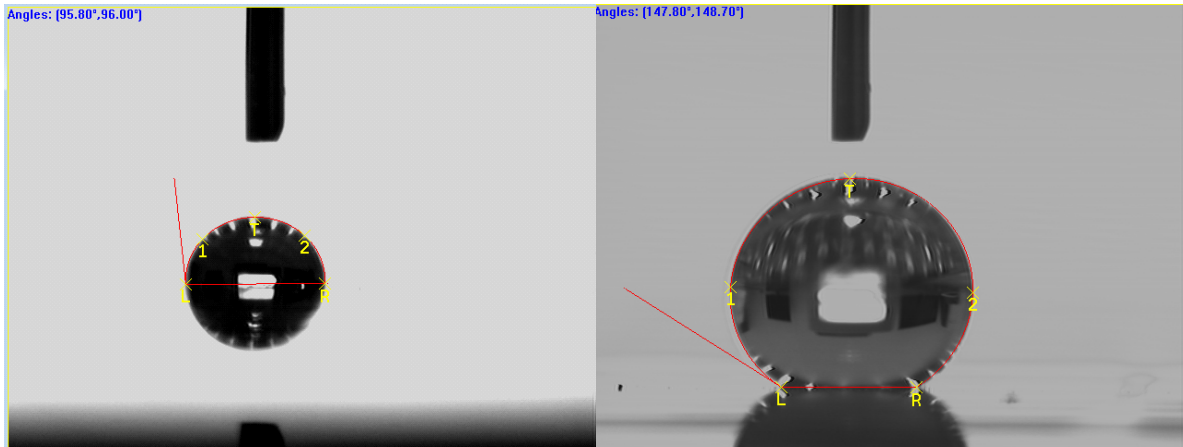

Figure 9. Contact angle of DI water on different substrates.
- Select the Manual Calculate ICON from the Graphical Menu Bar to calculate the contact angle. This will create a curve fit and tangent line on the image. Two numbers will be displayed in the left hand corner of the screen; these are the left and right contact angles, as shown in Figure 9.